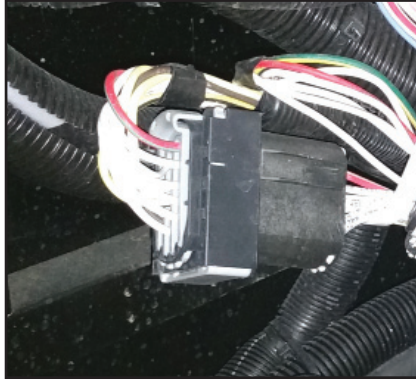

Figure A-3
3. Working from the inside of the front cap, locate the large 12-Volt harness pin connectors (located on each side or slightly above the generator). See Figures A-3, A-4, and A-5.